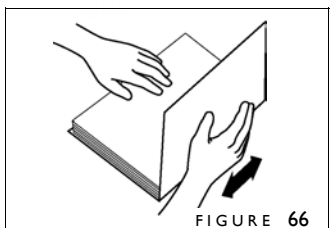
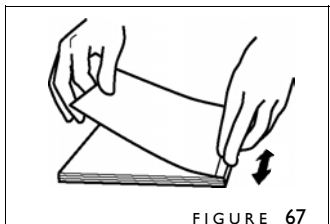

FIGURE 66
FIGURE 67
7. Fold the back cover up tight against the book block spine end (figure 66). Rub back and forth to bind the cover to the adhesive beneath it. Now fold the cover tightly all the way over the top of the book block. Rub back and forth on top near the spine to bind the adhesive beneath the cover (figure 67).